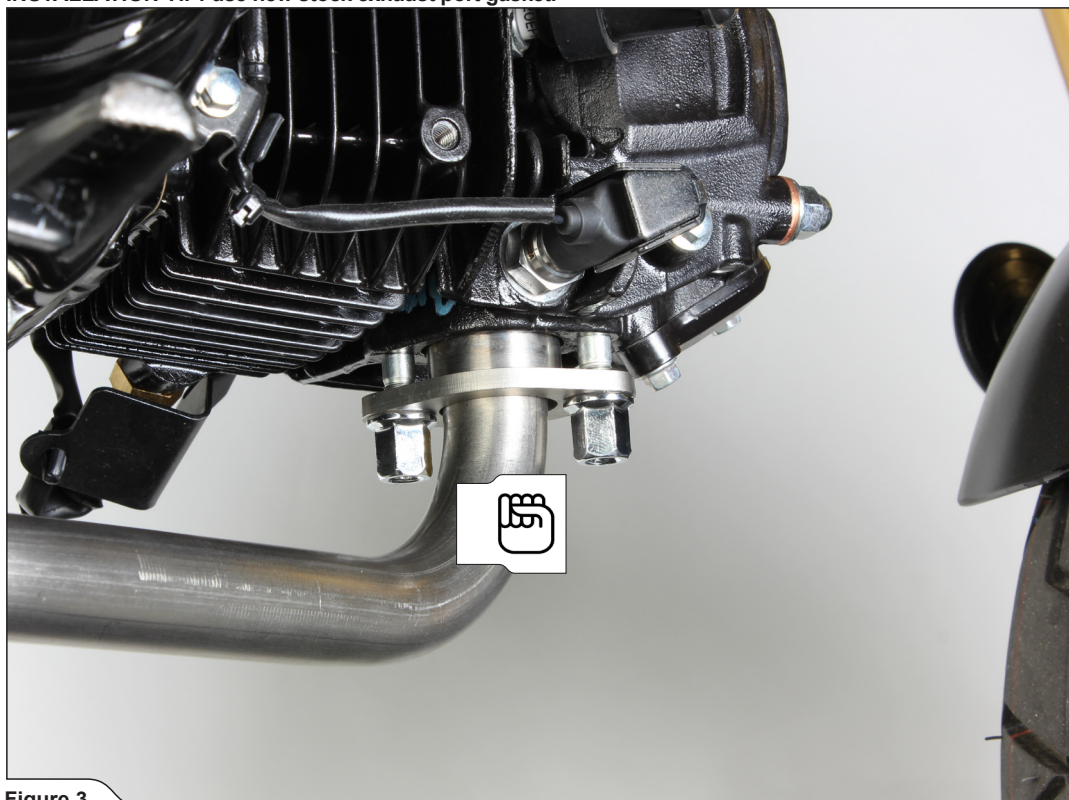

Figure 3
1. Install the header pipe and hand tighten the flange nuts (stock nuts) and header's bracket bolt (bolt and washer from Akrapovič installation kit) (Figure 3, 4).